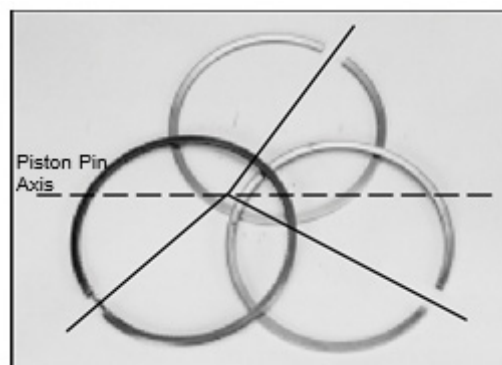

Figure 19
- Ring gaps are to be spaced at 120°. Gaps should not be set along the axis of the piston pin (Figure 19).